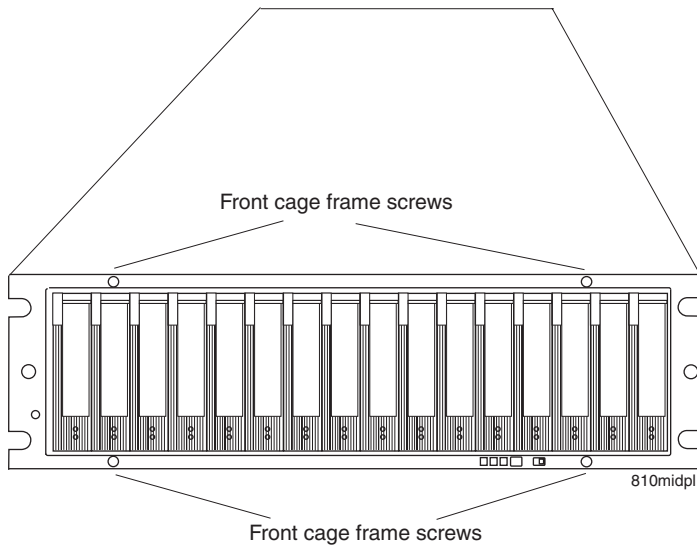

Figure 118. Front cage frame screw locations
10. Use a #1 Phillips screwdriver to loosen the four front cage frame screws on the midplane, as shown in Figure 118.
17. Tighten the four front cage frame screws. See Figure 118 on page 180.